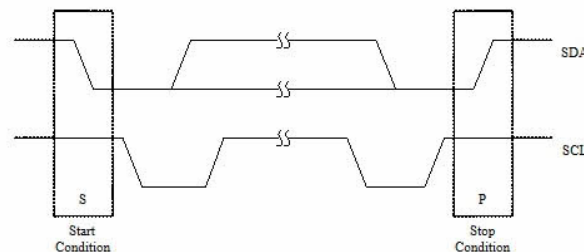

Figure 4.1 Start and Stop conditions
- Start and stop condition : A high to low transition of the SDA line while SCL is high defines a start condition. A low to high transition of the SDA line while SCL is high defines a stop condition. Please refer to Figure 4.1.